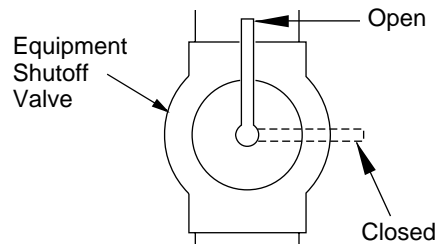

Figure 45 - Equipment Shutoff Valve
1. Close equipment shutoff valve (see Figure 45).
1. Open equipment shutoff valve (see Figure 45, page 21).